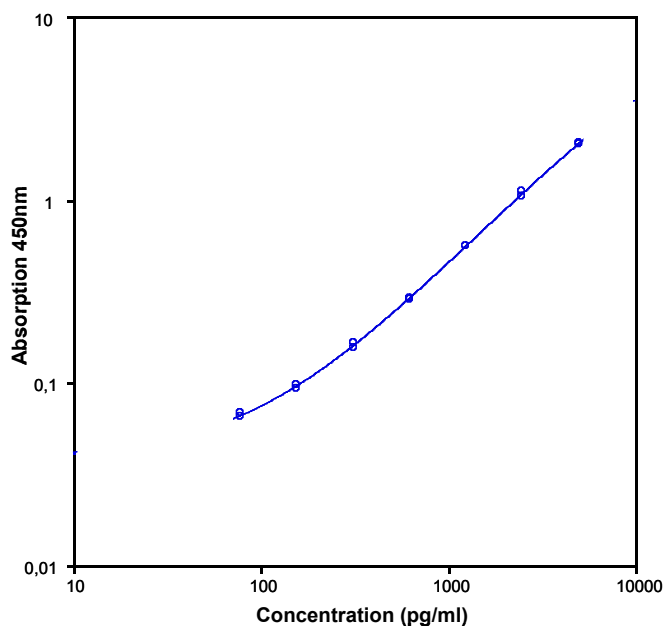

Fig. 8 Representative standard curve for human IL-18 ELISA. Human IL-18 was diluted in serial 2-fold steps in Sample Diluent.
- A representative standard curve is shown in Figure 8.